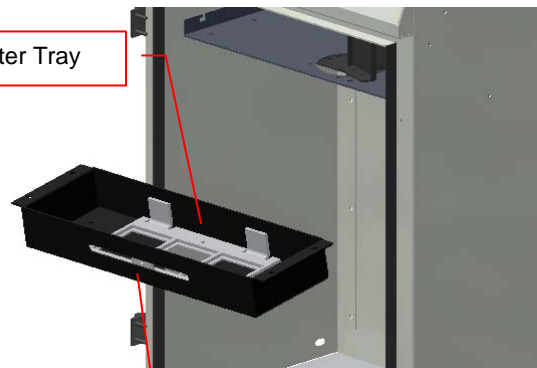

Figure 2
2. Remove the filter tray from its position and place the filter(s) in the square recessed areas (Fig. 2).